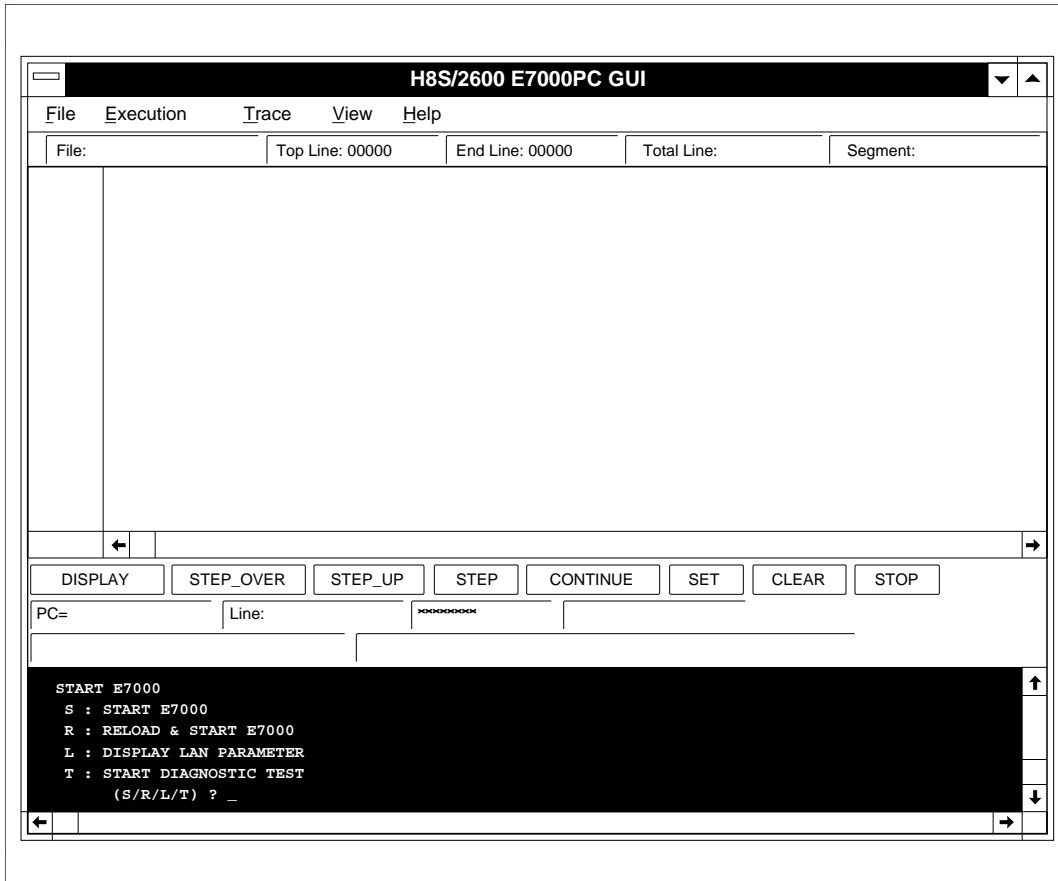

Figure 2-12 Start-Up Display
- (4) When the GUI-2600 is initiated, the display shown in figure 2-12 appears. The E7000PC emulator start-up message is displayed at the bottom, and the system waits for monitor command input. Enter the S command. For other monitor commands, refer to the E7000 H8S/2655 Emulator User's Manual. When initiation is completed, the WARM/COLD start selection request message is displayed. When the (Enter) key is pressed to select the COLD start, the GUI-2600 prompts for emulator command input by displaying a colon (:).